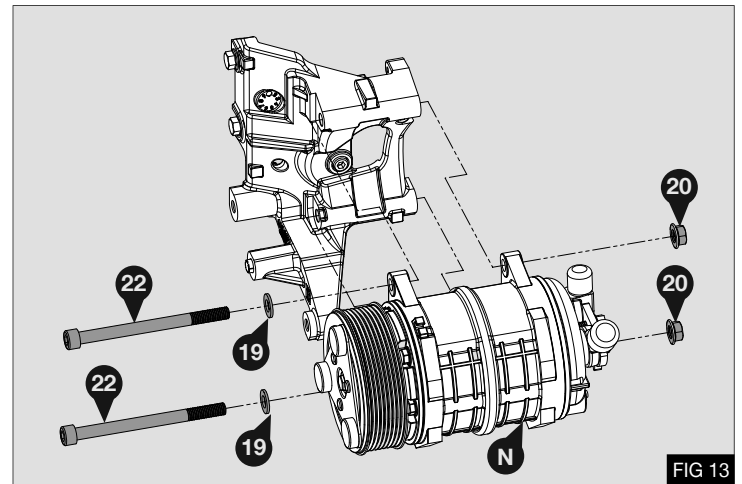

FIG 13
3. Torque bolt (29) to 45Nm / 33Lbft
4. Fit prepared compressor (N) to bracket using 2 x M10 x 130 Cap head screws (22) with washers (19) and M10 nuts (20) - Fig 13
5. Torque bolts (22) to 50Nm / 37Lbft